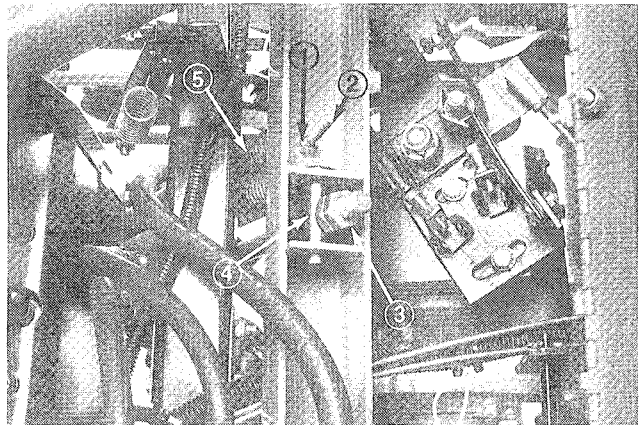

Figure 26
2. Measure distance between cylinder jam nuts and cylinder pivot pin (Fig. 26). Distance should be approximately 2-1/4".
5. Check distance between clevis pin and bottom of loops on springs. Distance should be .25" or less (Fig. 26 & 27).
6. Adjust nut on lift arm "T" hook to obtain required distance (Fig. 26).